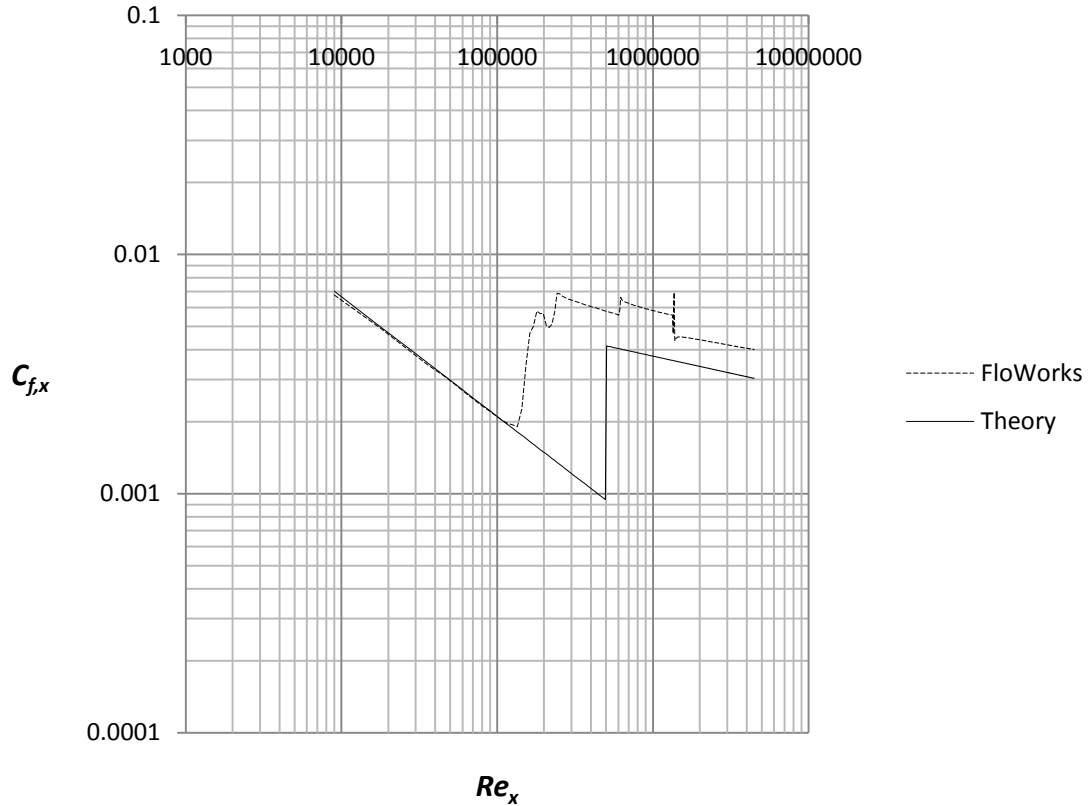

Figure 2.32 Comparison between FloWorks (dashed line) and theoretical laminar and empirical turbulent friction coefficients
34. Place the file “xy-plot figure 2.32” into the **Local Disk (C:)/SolidWorks/COSMOSFloWorks/FloWorks/lang/english/template/XY-Plots** folder to make it available in the **Template** list. Repeat step 24 and choose the sketch $x = 0 - 0.9$ m, uncheck the box for **X-Velocity** and check the box for **Shear Stress**. Rename the xy-plot to **Local Friction Coefficient for Laminar and Turbulent Boundary Layer**. An Excel file will open with figure 2.32. Figure 2.32 is showing the FloWorks is able to capture the local friction coefficient in the laminar region in the Reynolds number range 10,000 – 150,000. At $Re =$